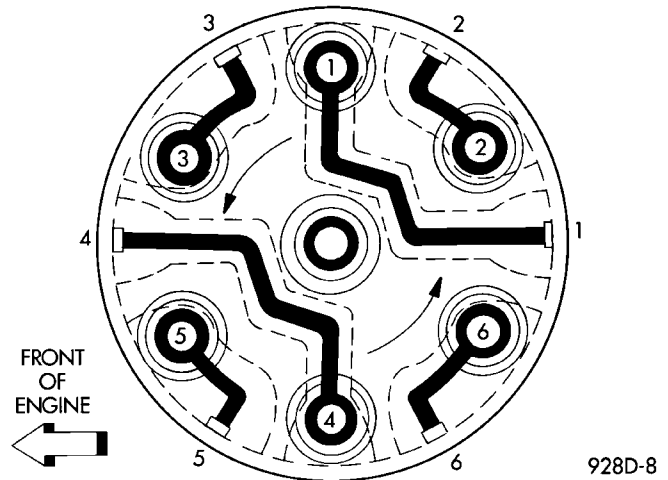

Fig. 8 Distributor Cap Terminal Routing, View from Top of Cap
(1) Position distributor in engine. Make certain that the O-ring is properly seated on distributor. If O-ring is cracked or nicked replace with new one.
(2) Carefully engage distributor drive with gear on camshaft. When the distributor is installed properly, the rotor will be in line with previously scribe line on air intake plenum. **If engine was cranked while distributor was removed, it will be necessary to establish proper relationship between the distributor shaft and Number 1 piston position as follows:**
- (b) Rotate rotor to number one rotor terminal (Fig. 8).